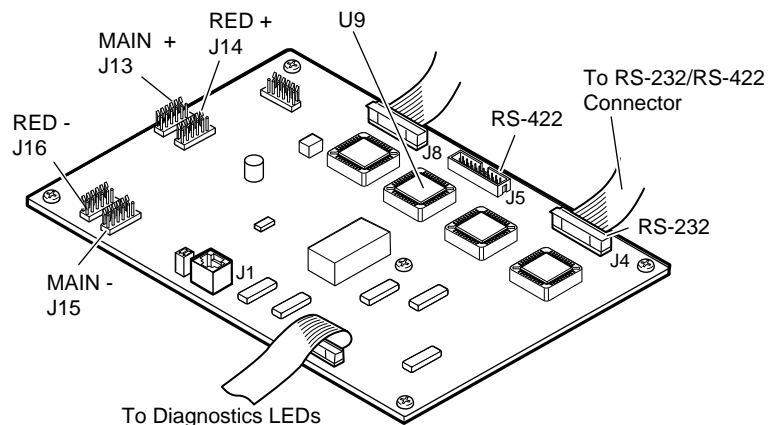

Figure 5-4.B Main Control Card (for card location, see Figure 5-3.A)
The ribbon cables used in the Matrix 6400 Audio Switcher use a self-latching style receptacle. Figure 5-4.A shows how it operates.
The Matrix 6400 Audio Switcher is normally connected for RS-232 use. If your application requires RS-422, follow this procedure (and Figure 5-4.B) to change the configuration. The procedure for removing and installing the ribbon cables is described above in "Ribbon Cable Connectors" above.
3. Locate ribbon cable receptacles J4 and J5 (Figure 5-4.B). One is empty and the other has a ribbon cable which goes to the rear panel. The ribbon cable plugs into J4 for RS-232 and J5 for RS-422. If the connection is wrong for your application, disconnect the cable and move it to the other receptacle.